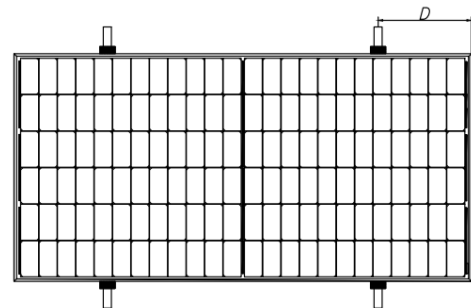
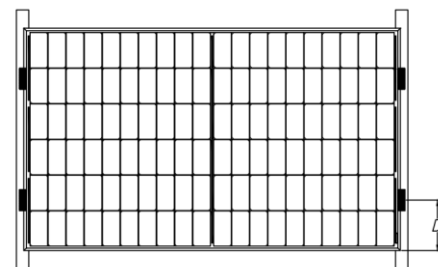
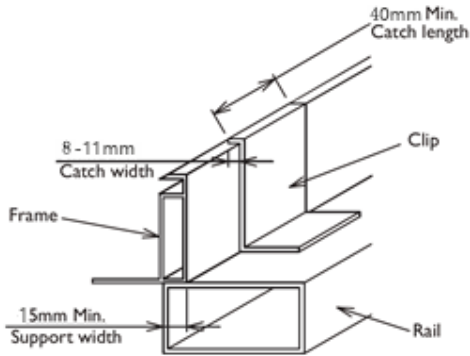

Fig. 8 Rails overlapping the long-side frame
Fig. 9 Rails overlapping the short-side frame
Figure 13 Mounting requirements for rails overlapping the
Photovoltaic modules can be installed across the support frame (Fig. 8) or parallel to the frame of the photovoltaic module (Fig. 9). When using clamps to install, each module must be secured with a minimum of 4 clamps.
⑧ For the installation method shown in Fig. 9, the module needs to be fixed with professional clamps (as shown in Fig. 13), and the overlap between the C side of the module and the rail should be $\geq 15\text{mm}$. Chint's limited warranty will be void if improper clamps or improper installation is used.